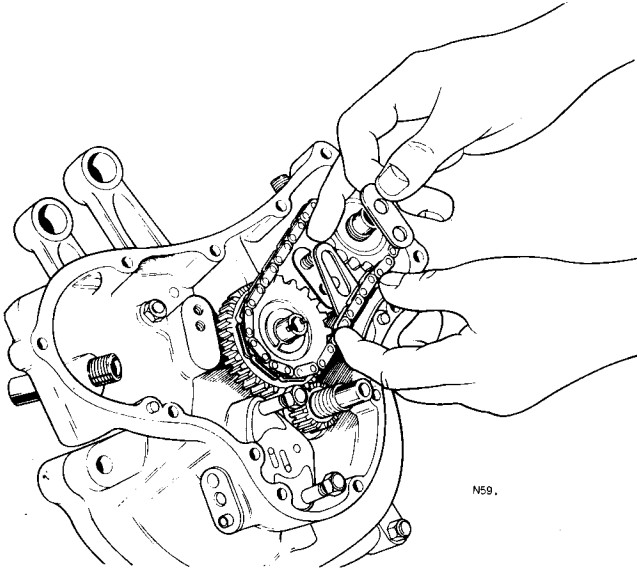

Fig. C38 Chain tensioner showing thin inner plate long end downwards
- 7 Assemble the chain tensioner as shown in *Fig. C38*, noting that the clamping plates differ, the inner one being thinner than the outer and the inner being fitted long end down whilst the outer clamping plate is fitted long end up.